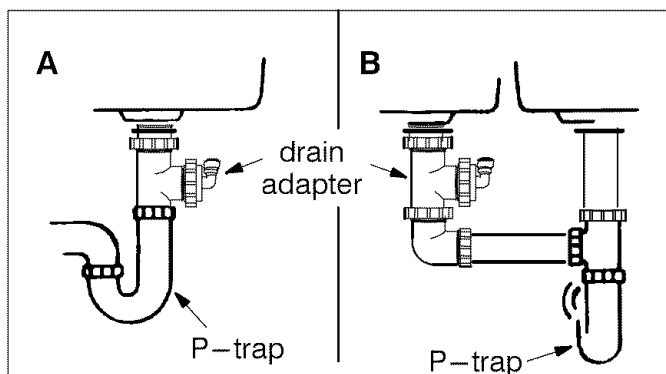
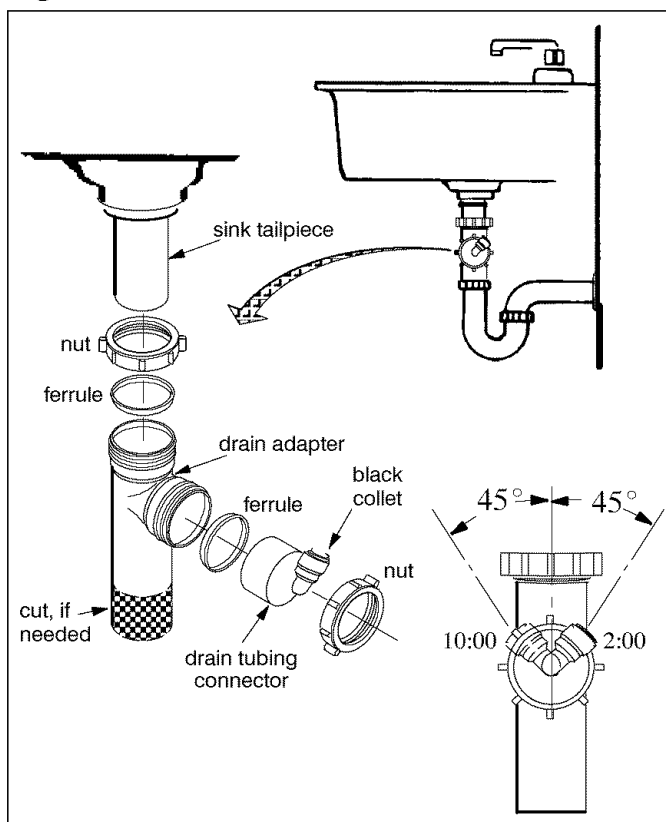

Figure 4
Figure 5
■ **Note:** Running the drain tubing directly to a floor drain, sump, standpipe, laundry tub, etc., as shown on page 17, is preferred. However, if that is not possible or practical, the included drain adapter installs in the sink drain pipe, always **above** or ahead of the p-trap, Figure 4. **Be sure to comply with your local plumbing codes.** Other drain pipe fittings, in addition to the adapter, may be needed.
■ The adapter installs directly onto the sink tailpiece as typically shown in Figure 4 and Figure 5.
1. Use a ferrule and nut to assemble the drain tubing connector to the drain adapter (Figure 5). Turn the connector to about 45° from the 12:00 position, as shown (to 10:00 or 2:00 position as needed). Tighten the nut securely.